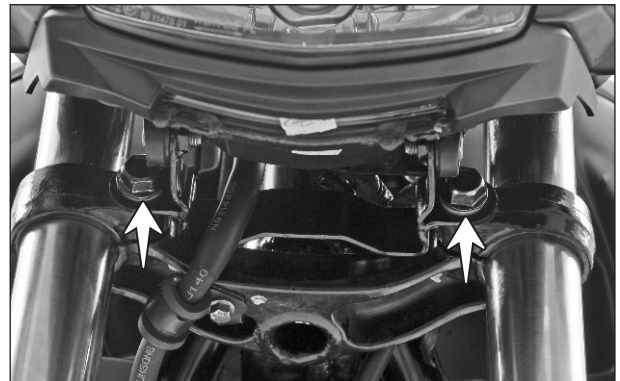

Fig. 6.49
- Loosen the hexagonal screws (M10x40 - 2 nos.) of lower bracket complete (fork lower mounting). (Fig. 6.49)